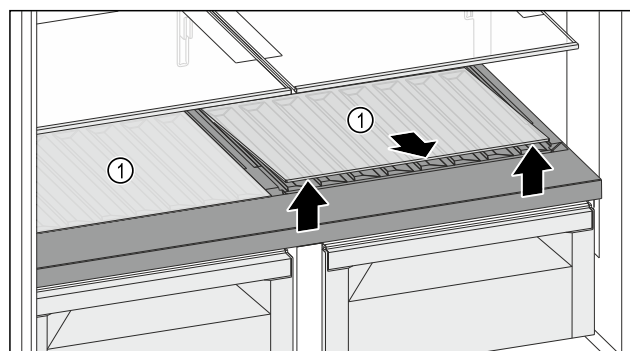

Fig. 120
- ▶ Lift one or both glass shelves Fig. 120 (1) at the front and remove.
- ▶ Store the glass shelf(s) Fig. 120 (1) in a secure place outside the appliance.